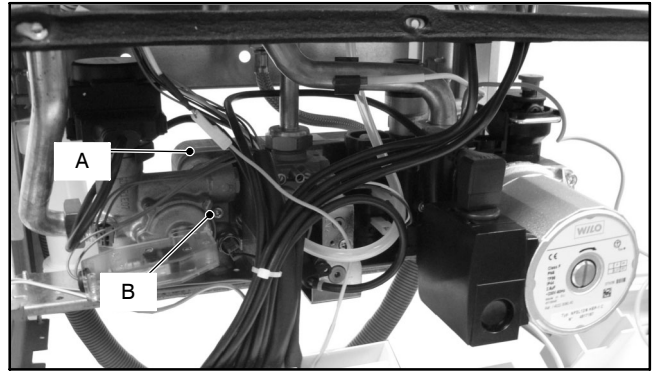

Fig. 6.3
The d.h.w heat exchanger A in Fig. 6.1 and Fig. 6.3 allows the instantaneous transfer of heat from the primary hydraulic circuit to the water destined for d.h.w use.
- 3 Completely unscrew the Allen key screws B (Fig. 6.3) which hold the exchanger to the brass group.